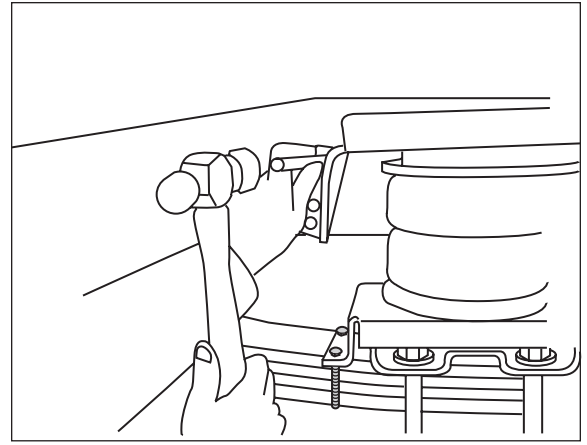

Figure 9
3. Using the upper bracket as a template, center punch and drill both $\frac{3}{8}$ " holes through the frame (Figure 9). Use the widest bolt hole pattern possible.